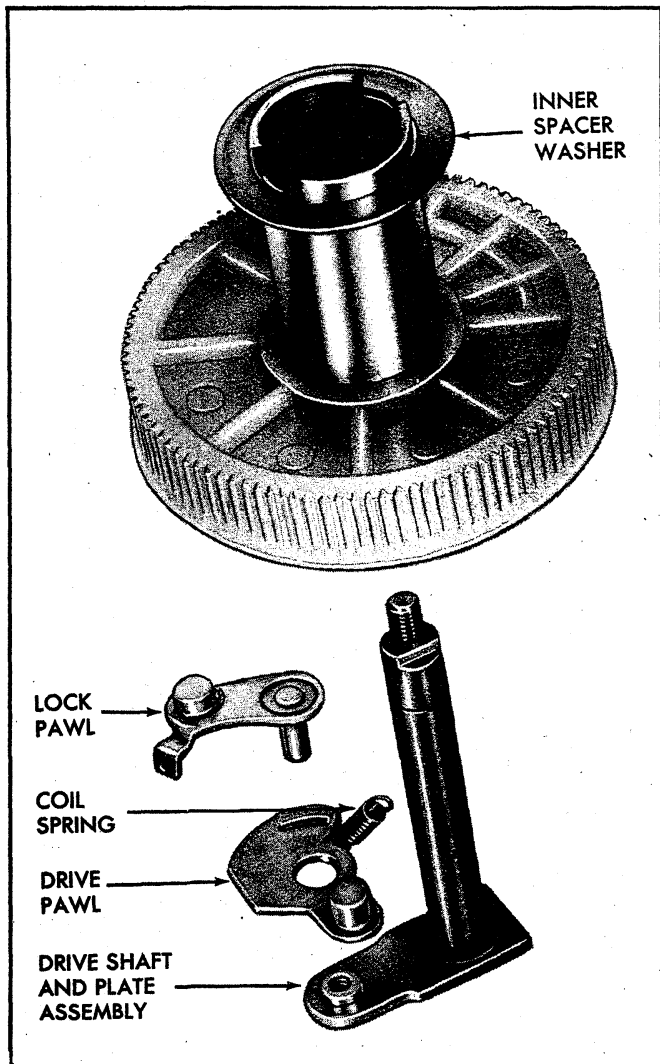
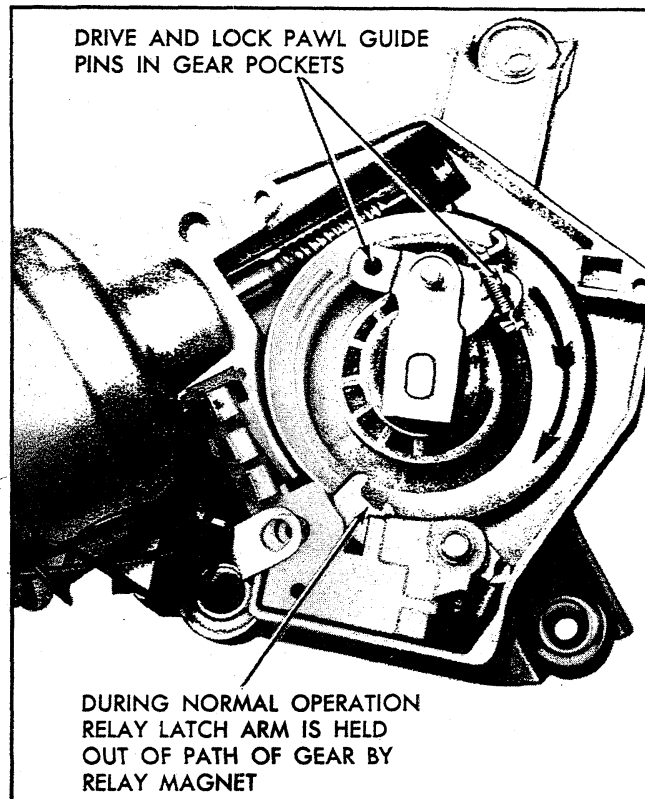

Fig. 87 - Drive Gear and Shaft Assembly
Fig. 88 - Drive and Lock Pawl Guide Pins in Pockets
3. Slide gear and tube over the drive shaft (fig. 87). (Move drive and lock pawls as required to allow their respective pins to fit in the gear guide channel, fig. 88).
4. Holding the gear, manually rotate the drive plate until the drive and lock pawl guide pins snap into their respective pockets in the gear (fig. 88).
5. Reinstall coil spring between lock and drive pawls (fig. 88).